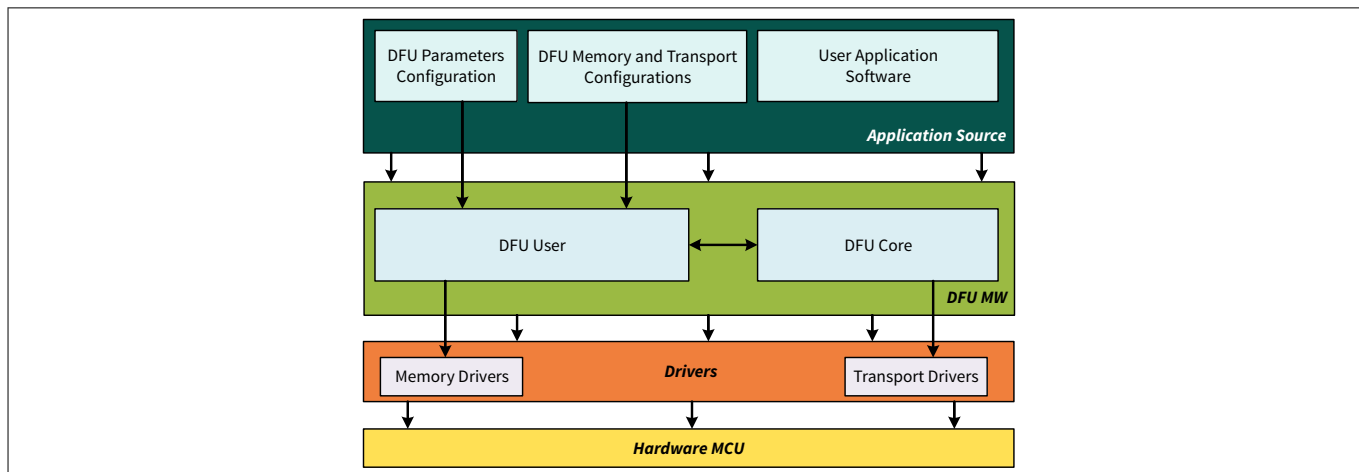

Figure 6 DFU MW layered architecture
The architecture of the DFU MW is shown in Figure 6, illustrating the generic flow of the DFU MW-based application. This visualization serves to explain the execution flow, which is segmented into four layers for clearer comprehension.
- **Middleware:** Middleware consists of the core implementation of the DFU protocol shown as the **DFU-Core** component in Figure 6. It also provides configurable parameters, commands, access to low-level communication drivers, memory operations, and interface functions shown as the **DFU-User**. You can modify keeping the core protocol unchanged